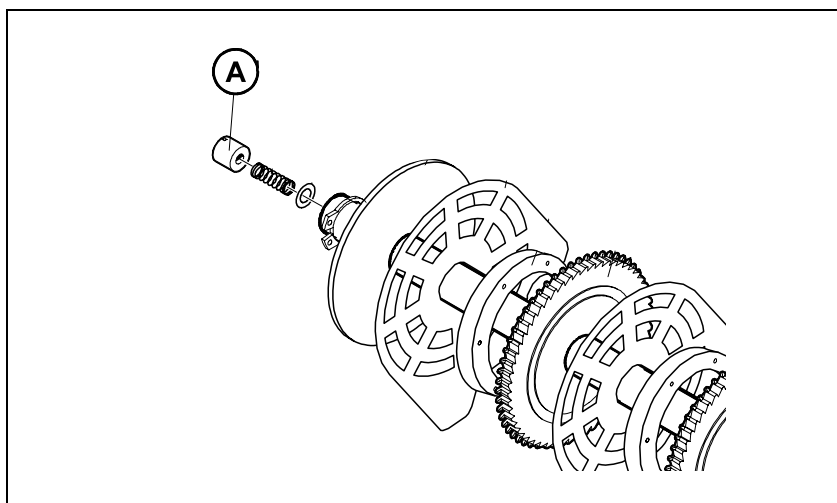

Figure 12-14. Feeder wheel pack end nut
2. If necessary, adjust by turning the nut (A in Figure 12-14) clockwise to increase the friction, counter-clockwise to decrease it.